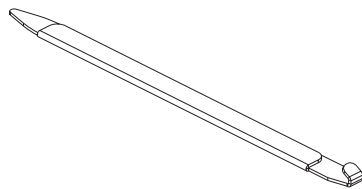

Figure 11. Optical transceiver extraction tool
5. If needed, a cable extraction tool Figure 11 can be used with the 8 Gbps or 10 Gbps transceivers to assist in removing them from a port.